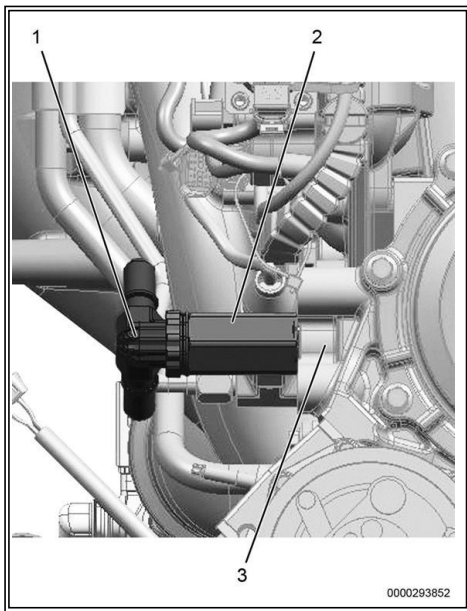

Figure 24: Coolant Deaeration Tank Supply Hose Spacer.
4. Install spacer (Figure 24, Item 2) into coolant distribution housing (Figure 24, Item 3).
5. Install 90-degree elbow fitting (Figure 24, Item 1) and DEF coolant supply hose.